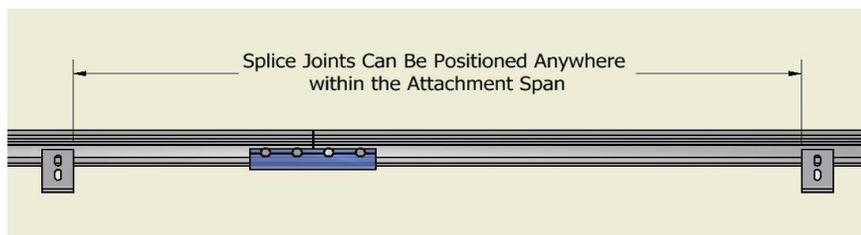

Figure 1
1) A splice joint is an assembly where the ends of 2 rails are joined to form a continuous run of rail. This application uses 4 fasteners (2 per rail) to attach the splice bar to the rails. The splice bar is centered over the location where the 2 rails touch as shown in Figure 1. Spliced rail locations can be positioned anywhere within the engineered span.